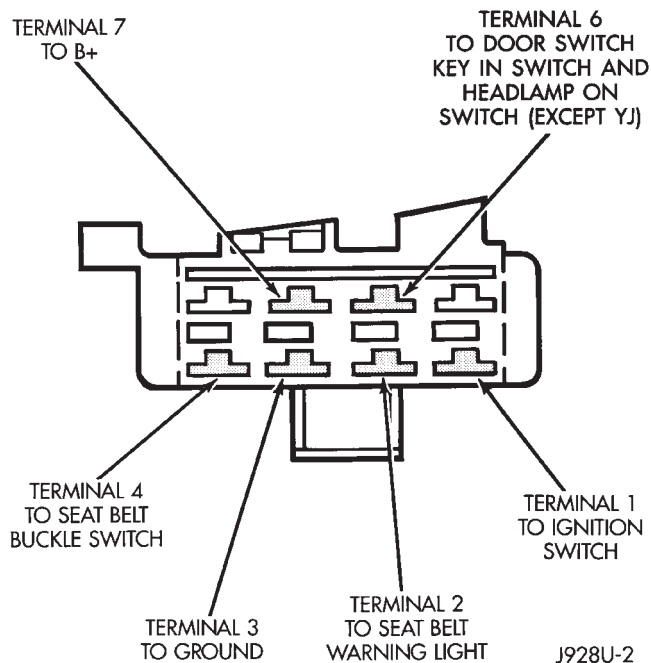

Fig. 1 Buzzer Module Connector
(1) Check fuses (15 and 17 - XJ, 3 and 9 - YJ) in the fuseblock module. If fuses are OK, go to next step. If not OK, replace fuses as required.
(2) Check for battery voltage at fuse (15 - XJ, 3 - YJ) in fuseblock module. If OK, go to next step. If not OK, repair feed circuit from power distribution center as required.
(3) Turn ignition switch to ON position. Check for battery voltage at fuse (17 - XJ, 9 - YJ) in the fuseblock module. If OK, go to next step. If not OK, repair feed from ignition switch as required.
(4) Turn ignition switch to OFF position. Replace buzzer module with a known good unit and test operation. If not OK, remove buzzer module and go to next step.
(5) Check for battery voltage at cavity for buzzer terminal 7 in buzzer module connector (Fig. 1). If OK, go to next step. If not OK, repair circuit to fuse (15 - XJ, 3 - YJ).